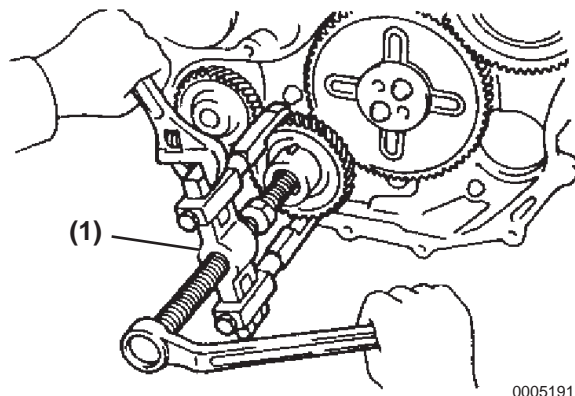

Figure 5-191
12. Remove the oil pump drive shaft gear from the crankshaft using special tool P/N 119770-01080 (**Figure 5-191, (1)**).